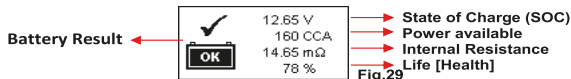

Fig.29
- The results of the test will be displayed on the screen (Fig.29) within 7 seconds.
5. Basing on the example given in Fig.29, the final results can be explained as follows: